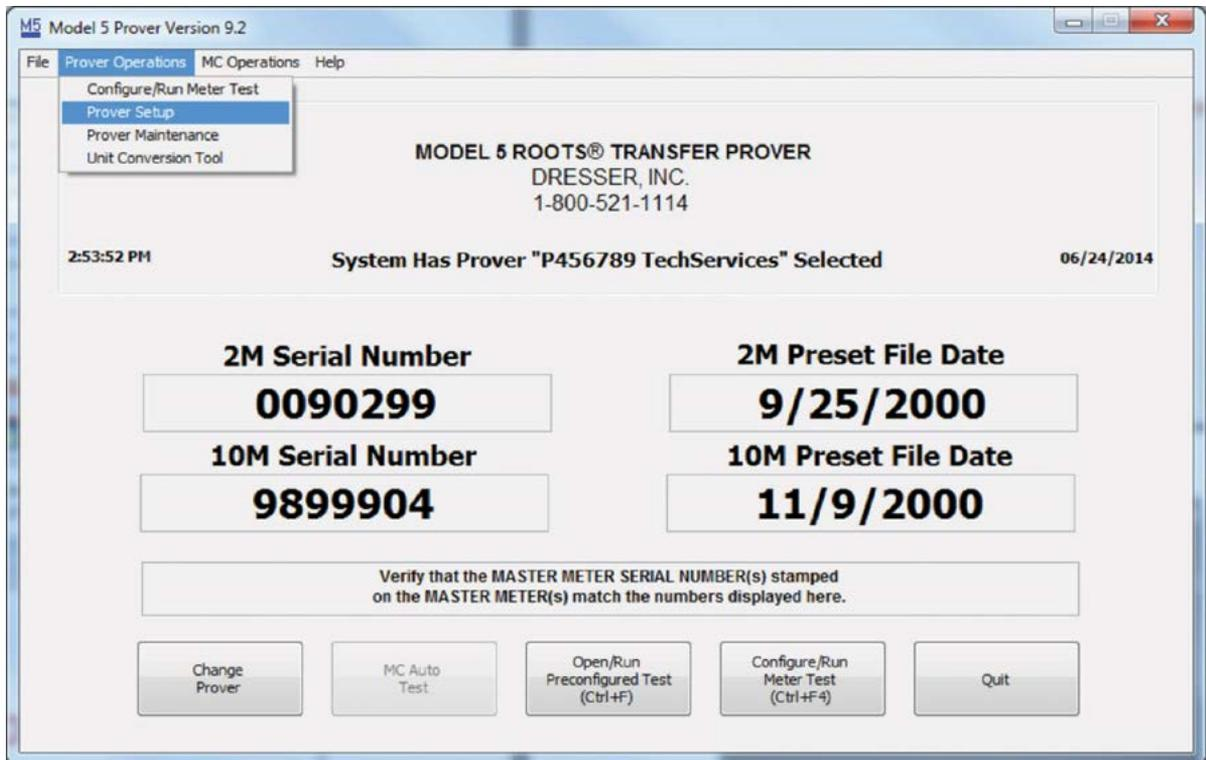

Figure 112: Prover Setup Selection
2. On the upper, left-hand corner, select “Prover Operations” and “Prover Setup” as shown in **Figure 112**.